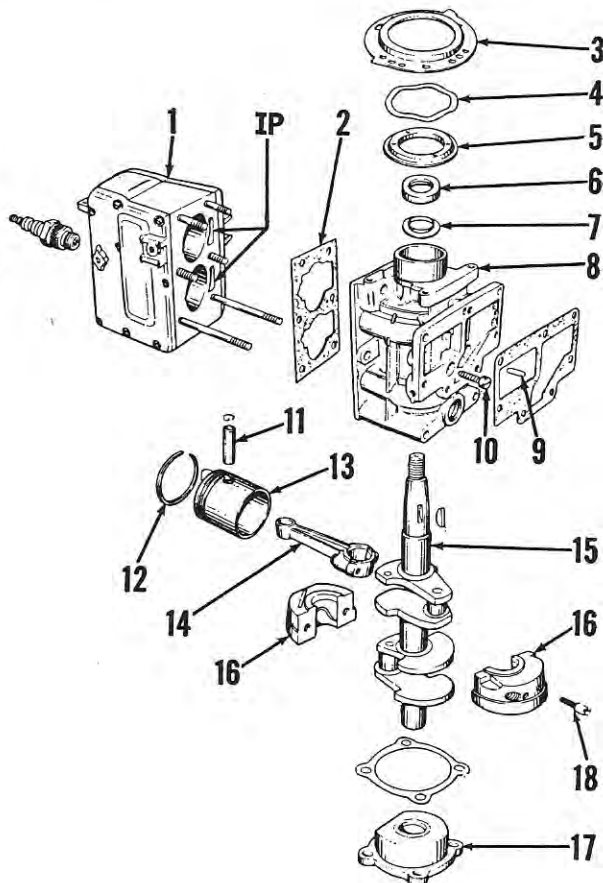

Fig. G29—Exploded view of power head used on models 5S11 through 5S14. Model 5D11 is similar.
**Models 5S11 through 5S14B; Model 5D11:** Refer to Fig. G29. Remove the stud nuts retaining the cylinder assembly (1) to the crankcase (8) and carefully withdraw the cylinder assembly from crankcase and pis-
Special piston ring compressors (OMC Part No. 552482) are required when assembling Models 5S11 through 5S14B and Model 5D11 power heads. Thoroughly lubricate and completely assemble crankshaft, bearings, rods and piston assemblies. Install ring compressors and turn crankshaft until pistons are approximately equal in height. Hold a piece of shim stock over one of the short cylinder stud holes in crankcase (8—Fig. G29) so that stud will not enter hole, then install cylinder (1) over pistons, using the long studs as a guide. When short stud contacts shim stock, work ring compressors down over skirt of pistons. Remove upper ring compressor from side of power head and lower ring compressor from below. Remove shim stock and assemble cylinder to crankcase assembly.